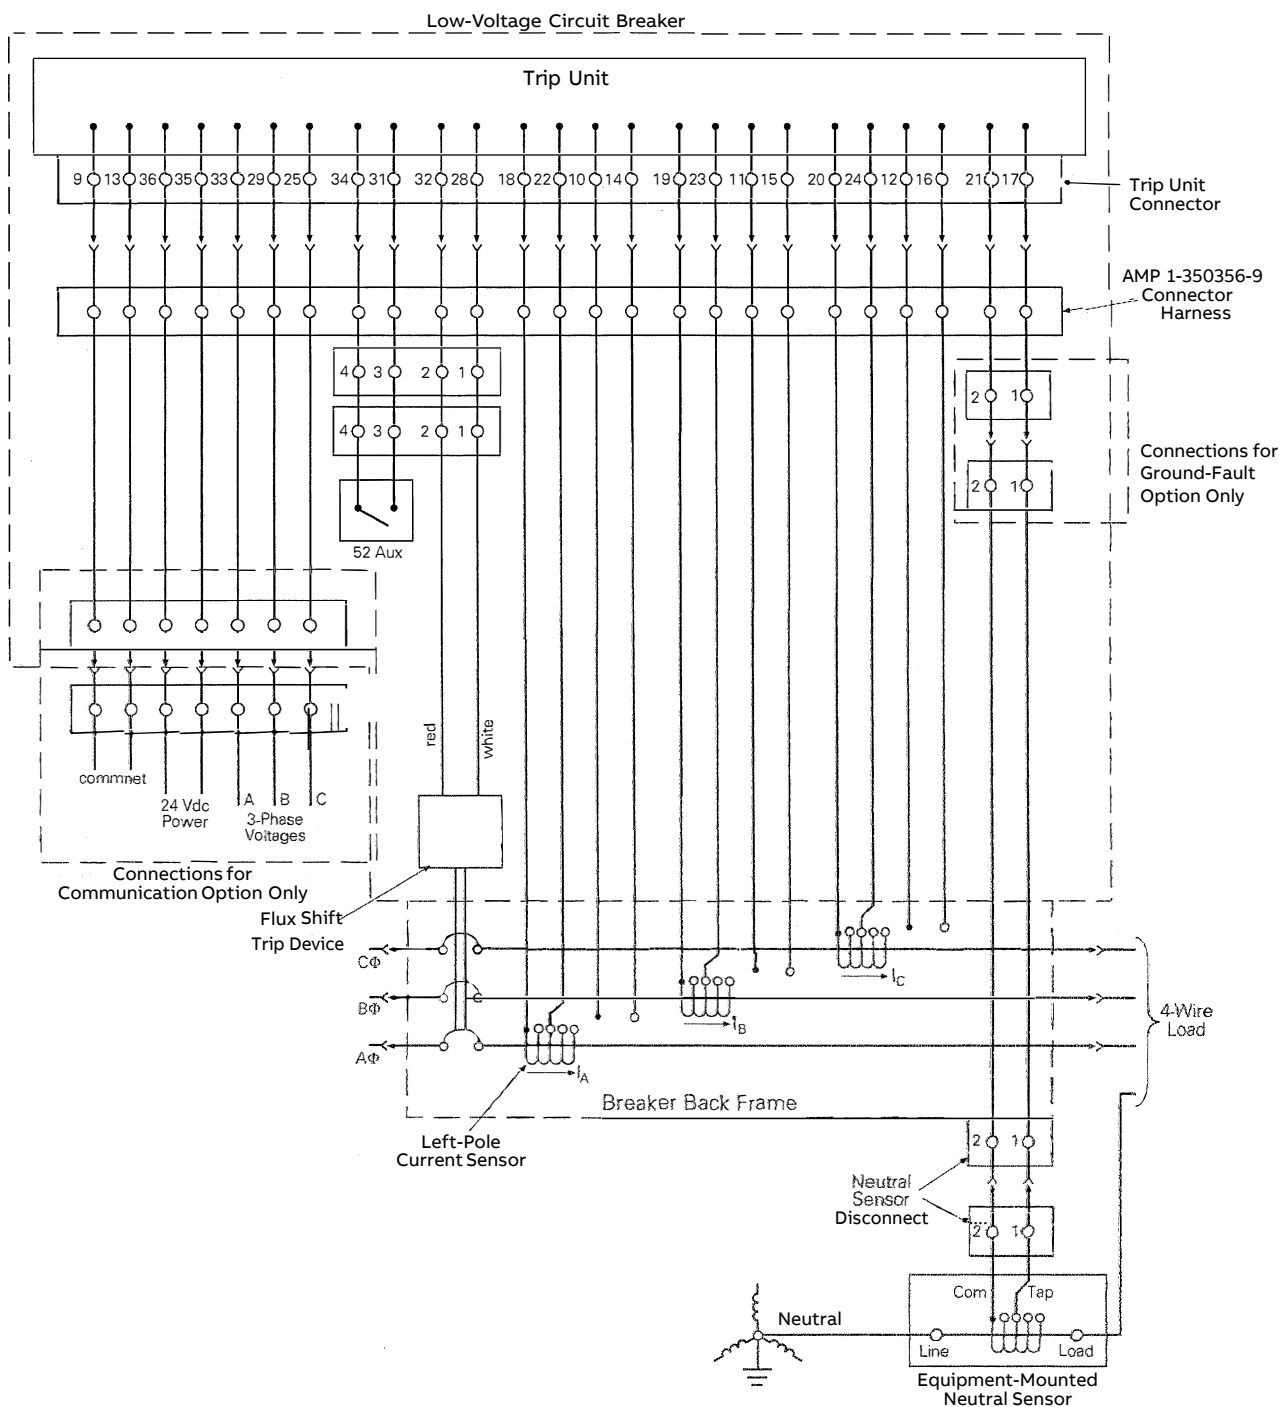

Figure 24. Cabling diagram for MicroVersa Trip Plus™ and MicroVersa Trip PM™ trip units with ground fault on four-wire loads.
3. Verify that the wiring harness connections to the sensors have the proper polarity (white lead to common, black lead to tap), as shown in the cabling diagram in Figure 24.
4. on ground fault breakers serving four-wire loads, check that the neutral sensor is properly connected, as indicated in Figure 24. In particular, check the following: